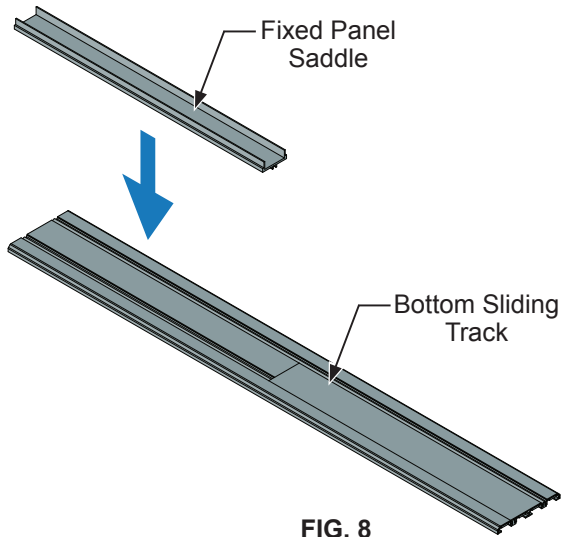

FIG. 8
6. Insert the Fixed Door Saddle into the recess on the Bottom Sliding Track. (FIG. 8)